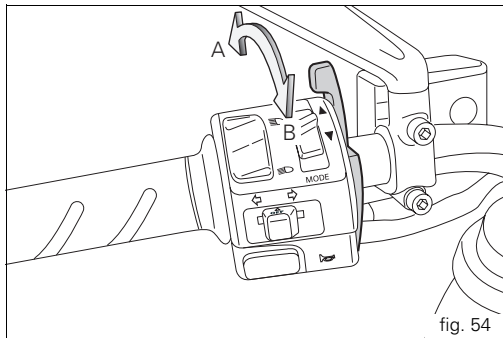

fig. 54
- 2) Move the cold start lever to position (B, fig. 54).
5) Then, as the engine warms up, move the cold start lever gradually towards vertical position (A, fig. 54). Once the engine is at normal running speed, it should idle smoothly with the cold start lever completely closed.